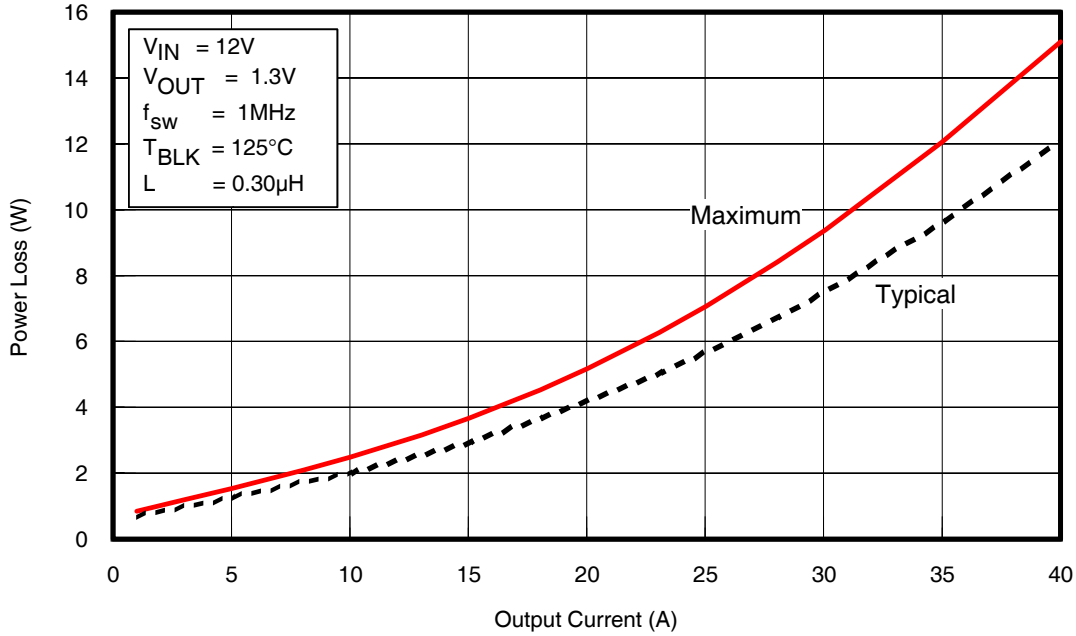
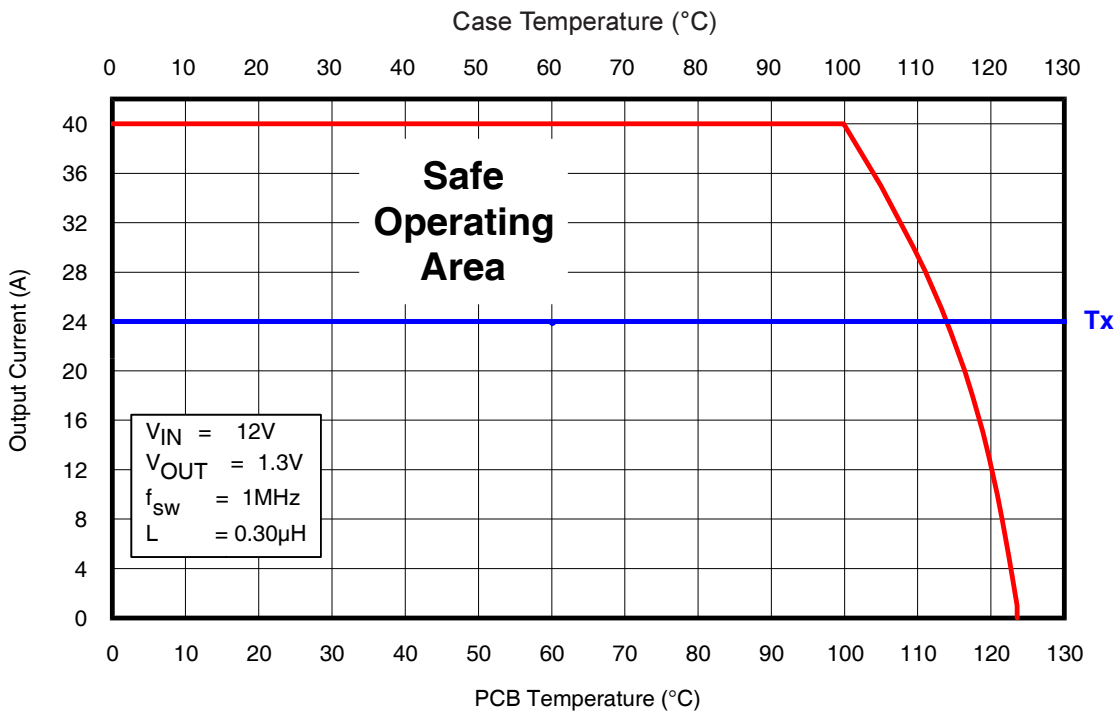
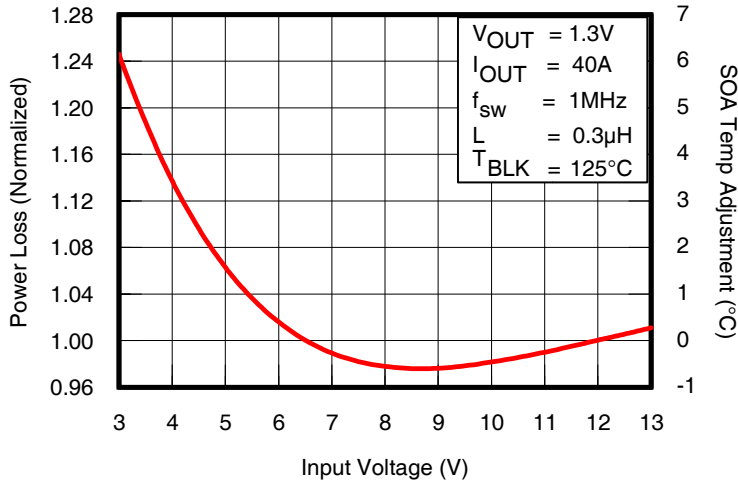

Fig. 1: Power Loss vs. Current
Fig. 2: Safe Operating Area (SOA) vs.  $T_{PCB}$  &  $T_{CASE}$
Fig. 3: Normalized Power Loss vs.  $V_{IN}$
To calculate power loss for a given set of operating conditions, the following procedure should be followed: Determine the maximum current for each iP2003PbF and obtain the maximum power loss from Fig 1. Use the curves in Figs. 3, 4, 5 and 6 to obtain normalized power loss values that match the operating conditions in the application. The maximum power loss under the operating conditions is then the product of the power loss from Fig. 1 and the normalized values.
To calculate the SOA for a given set of operating conditions, the following procedure should be followed: Determine the maximum PCB temperature and Case temperature at the maximum operating current of each iP2003PbF. Obtain the SOA temperature adjustments that match the operating conditions in the application from Figs. 3, 4, 5 and 6. Then, add the sum of the SOA temperature adjustments to the  $T_x$  axis intercept in Fig 2.
- (Fig. 1) Maximum power loss = 15W
- (Fig. 3) Normalized power loss for input voltage  $\approx 0.98$
- (Fig. 3) SOA Temperature Adjustment for input voltage  $\approx -0.5^{\circ}\text{C}$